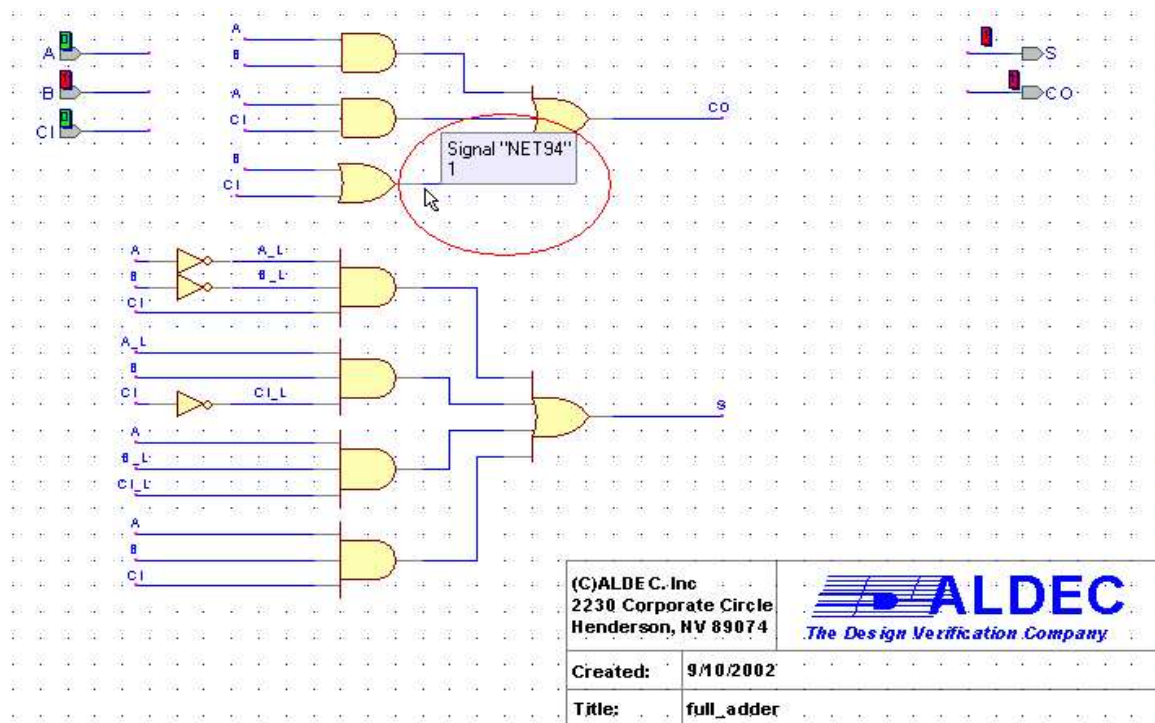

Figure 48
simulation. A green box means the signal is low (0), a red box means the signal is high (1), a yellow box (z) means the signal is unconnected, and a blue box (x) means the signal is unknown. We noticed that after running the simulation for 10 ns that the box next to the carryout output terminal was red (see Figure 48 on the next page). Using the mouse-over feature, we traced the signal from the carryout terminal all the way back to the input signals.